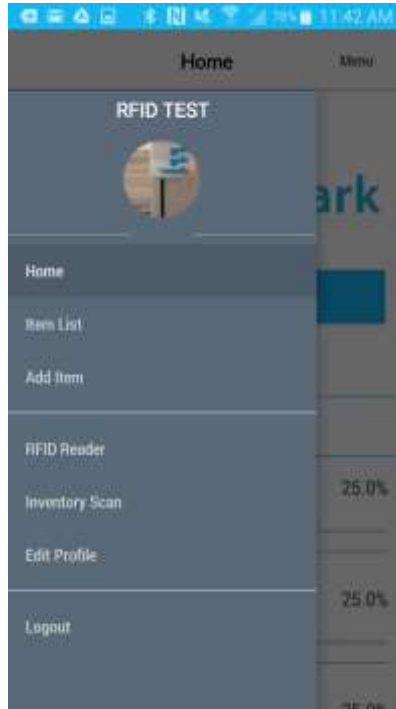
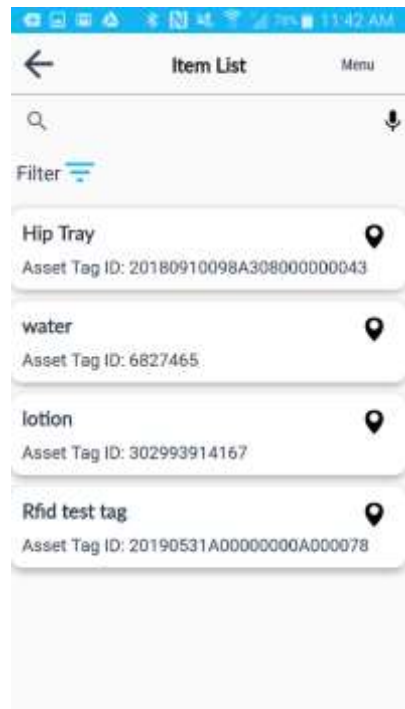

Figure 23
Figure 24
2. To view the list of items in inventory tap on Menu, Item List. This will show the list of the trays and items with the Asset Tag ID. **Fig. 23, Fig. 24**